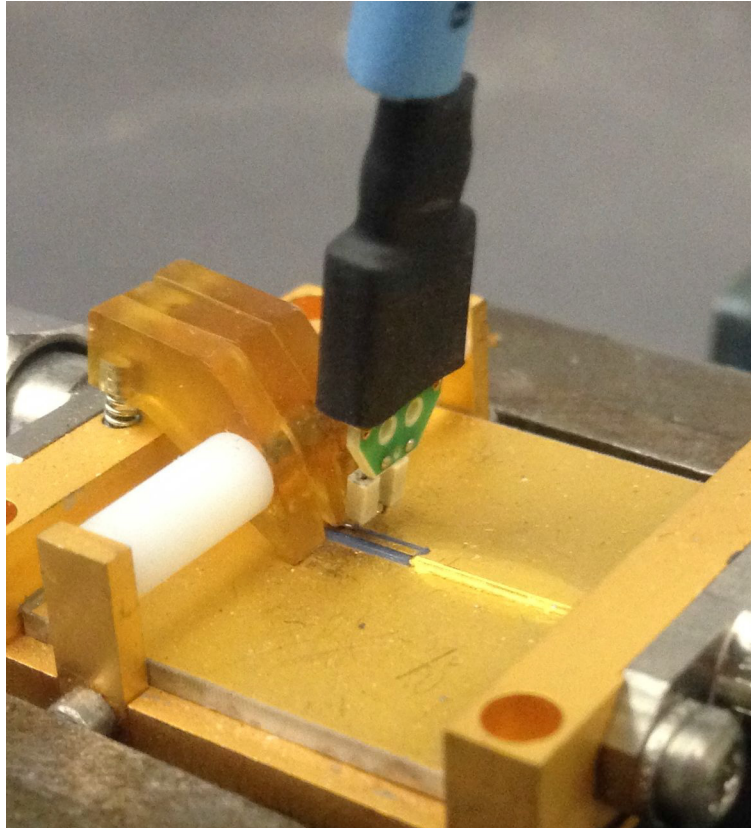

Figure 104 Close-Up of Tip Wires Positioned Under Pincher
- c Depress the actuators on the pincher and carefully insert one wire under the center pincher and the other wire under one of the side pincher. Either polarity of the probe can be tested and will yield the same results (but opposite phase) if the probe is working properly. **Figure 104** on page 144 shows a close up of the tip wires positioned under the pincher.